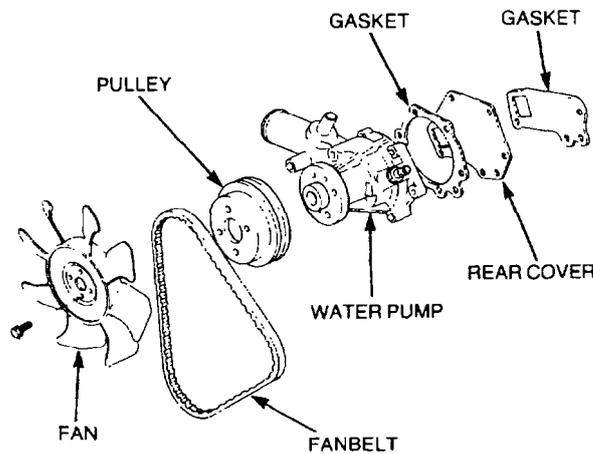

**Figure 6** Thermostat Operation
**36.** The thermostat is a wax pellet, disposable type, designed to open when a coolant temperature of 82°C is reached. At lower temperatures, spring pressure keeps the thermostat closed and the bypass valve at the bottom of the thermostat opens. This allows coolant to circulate from the water pump through the engine and back to the water pump via the bypass hose. As the desired temperature is reached, the wax pellet within the thermostat melts and expands. This exerts pressure on the plunger, which overcomes the spring pressure, opening the thermostat and closing the bypass valve (refer to Figure 6). Heated coolant now flows from the engine to the radiator.